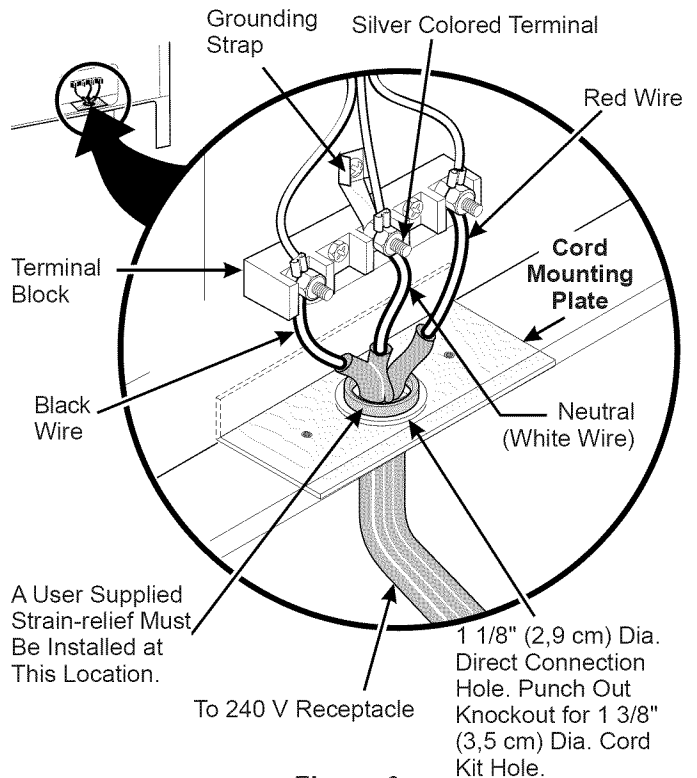

Figure 6
NOTE: Electric Slide-in Range is shipped from factory with 1 1/8" (2,9 cm) dia. hole as shown on figure 6. If a larger hole is required, punch out the knockout.
If local codes permit connection of the frame grounding conductor to the neutral wire of the copper power supply cord (see Figure 6):
2. Using the nuts supplied in the literature package, connect the neutral of the copper power supply cord to the center silver-colored terminal of the terminal block, and connect the other wires to the outer terminals. Match wires and terminals by color (red wires connected to the right terminal, black wires connected to the left terminal) (see figure 6).